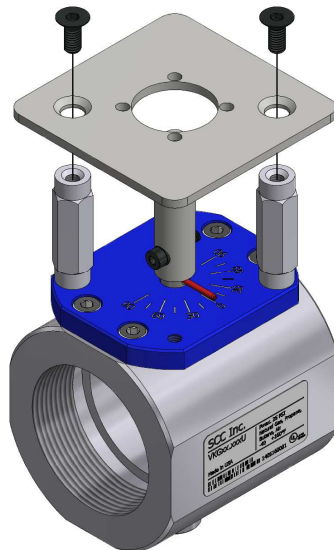

Figure 4: Mounting Bracket Installation
3. Place a small amount of purple Loctite on the end of each of the (2) M6 x 14mm flat socket head screws. Using a 4mm hex key, fasten the mounting bracket to the top of the standoffs as shown in Figure 4 below.